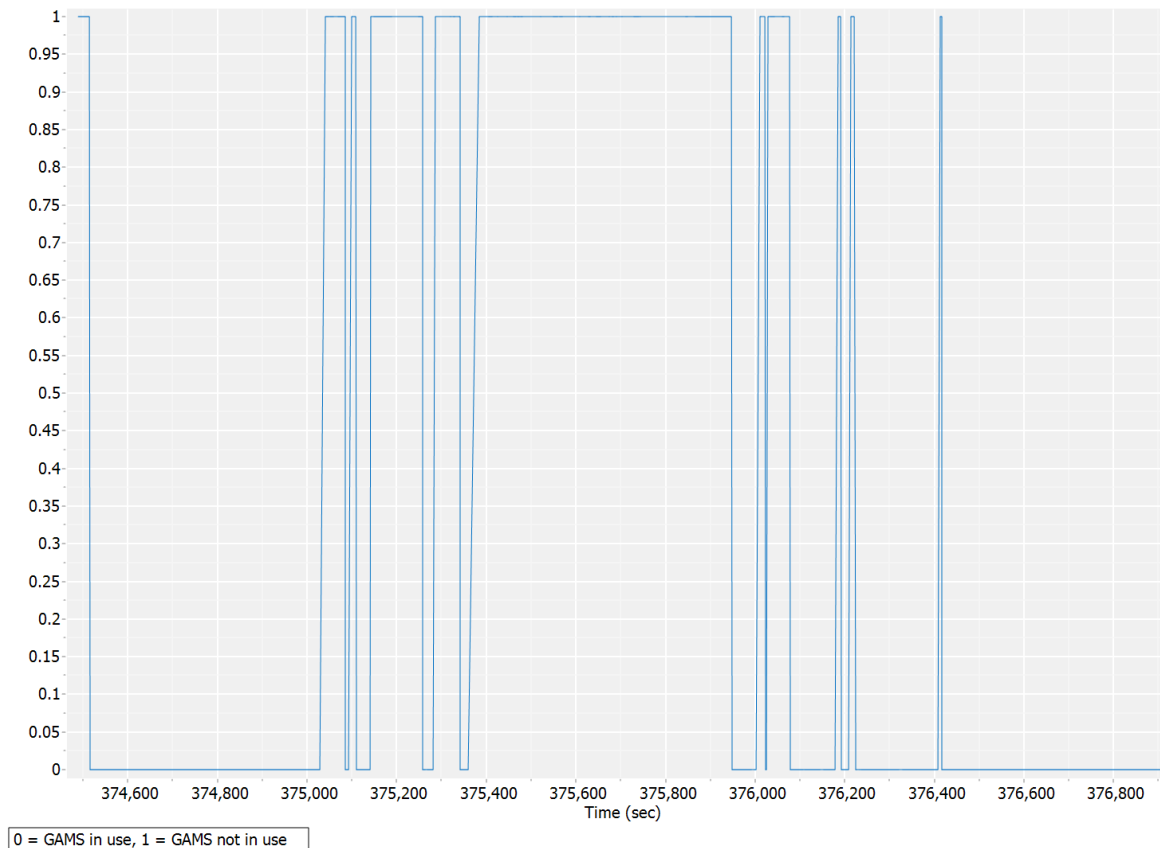

Fig 6: GAMS Solution Status
- *Provides information if GAMS (dual antenna) was in use or not (Fig 6)*
- *Provides information about GAMS (heading between primary and secondary antenna) usage (Fig 6)*